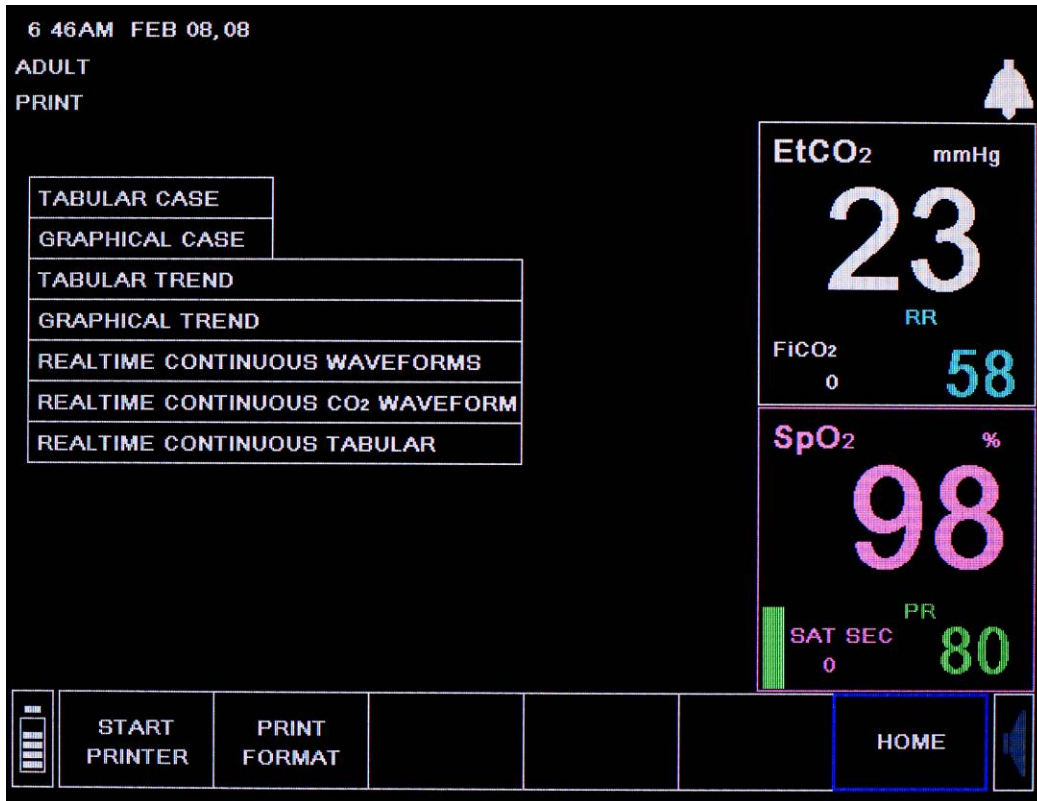

Figure 33 - Print Screen
1. From the Home screen, select *PRINT* to display the Print screen seen in Figure 33 - Print Screen, below.